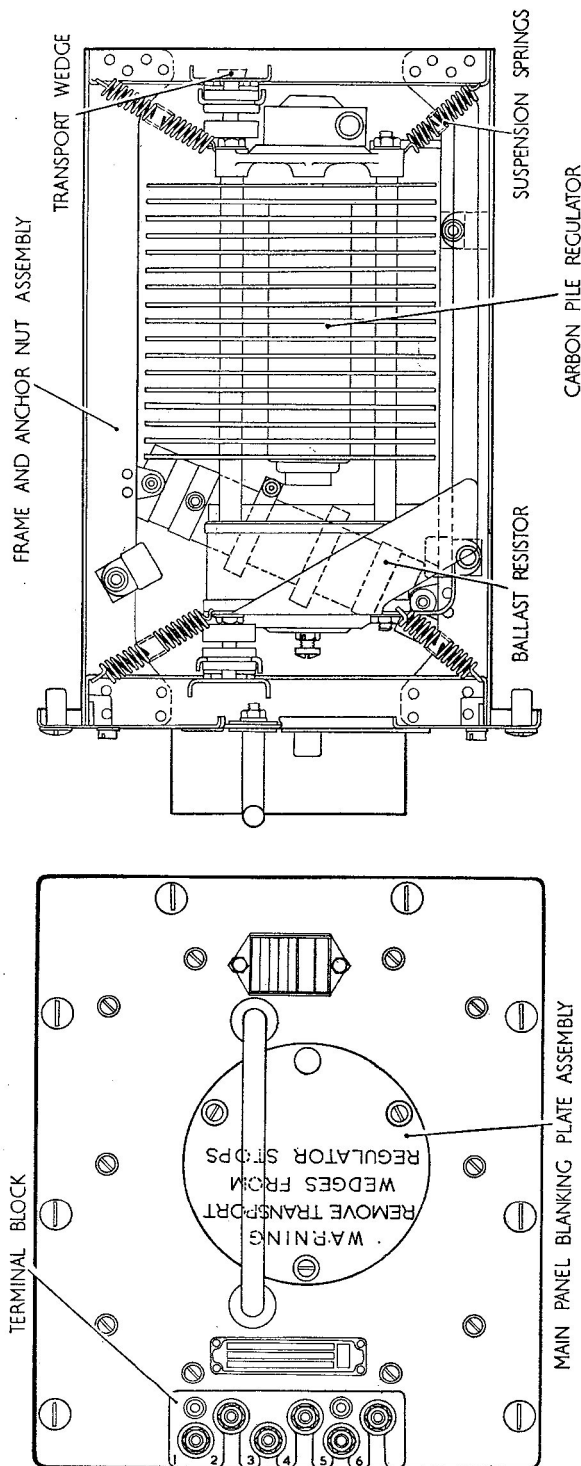

Fig. 1. General view of unit (cover removed)
3. Integral with the main panel is the frame and anchor nut assembly, and contained within the frame is the carbon pile regulator suspended by eight tension springs; these are anchored to associated brackets at each end of the framework assembly (fig. 1). The regulator unit is self-contained within its own framework and is secured to the main chassis of the U3301 transformer rectifier unit by quick-release fasteners, for ease of servicing, as illustrated in A.P.4343B, Vol. 1, Book 3, Sect. 19, Chap. 11.